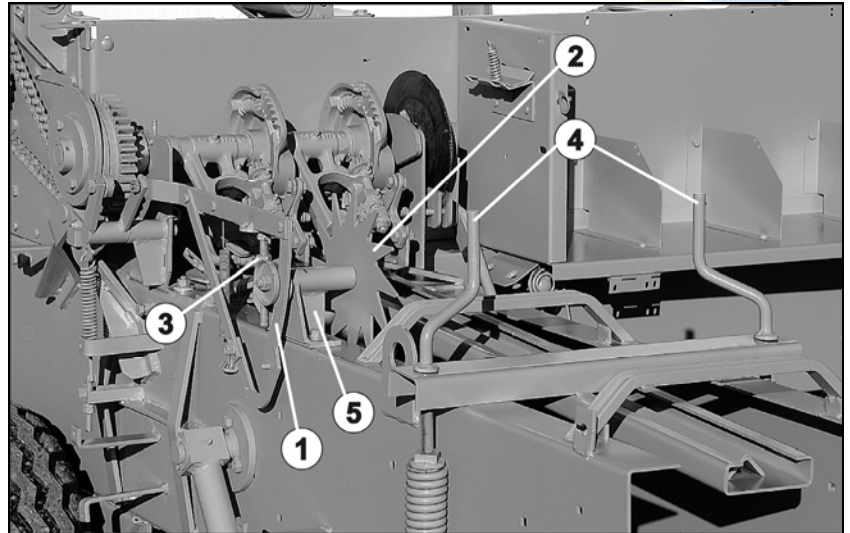
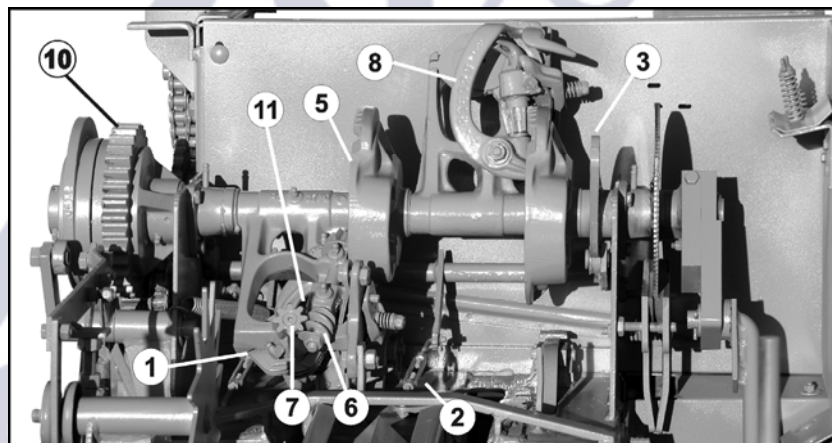

Fig. 4
Fig. 15
- Coupling of the binder is carried out bringing to its maximum height the sector lever (no. 1 Fig. 4) by rotating the ball spacing, star type wheel no. 2 Fig. 4 then the bell gear no. 10 Fig. 15 is rotated until it is locked in the position of binding shaft dragging.